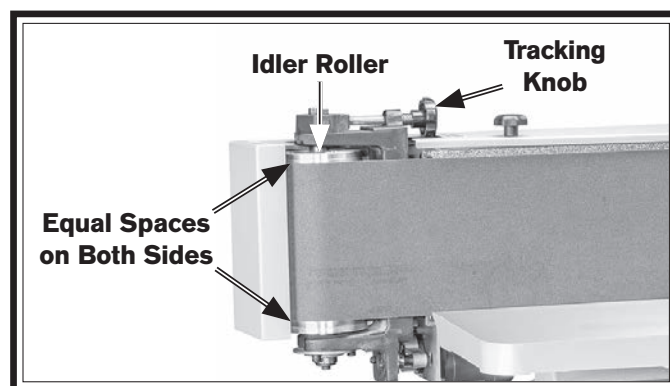

Figure 27. Location of tracking knob and example of sanding belt centered on idler roller.
2. Standing in front of sander, push sanding belt multiple times along platen, so that it moves in direction of operation (counterclockwise on rollers, as viewed from above), then watch how sanding belt tracks on rollers (see **Figure 27**).
3. Turn tracking adjustment knob clockwise to adjust tracking upward or counterclockwise to adjust tracking downward, while continuing to rotate sanding belt by hand until sanding belt is centered on rollers (see **Figure 27**).